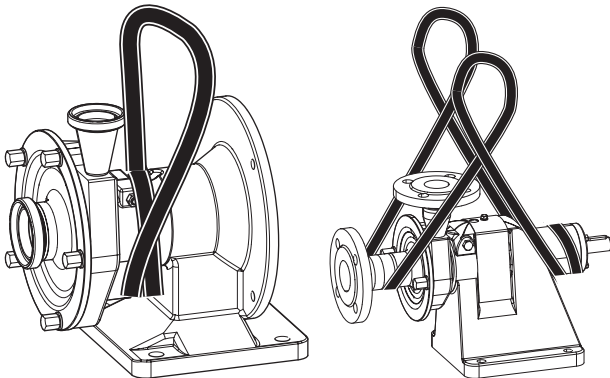

Fig. 47 Moving with crane
1. Wrap the round sling twice around the lantern neck (see Fig. 47 "Moving with crane" page 34).
1. Wrap the round sling twice around the back end of the bearing block (see Fig. 47 "Moving with crane" page 34).